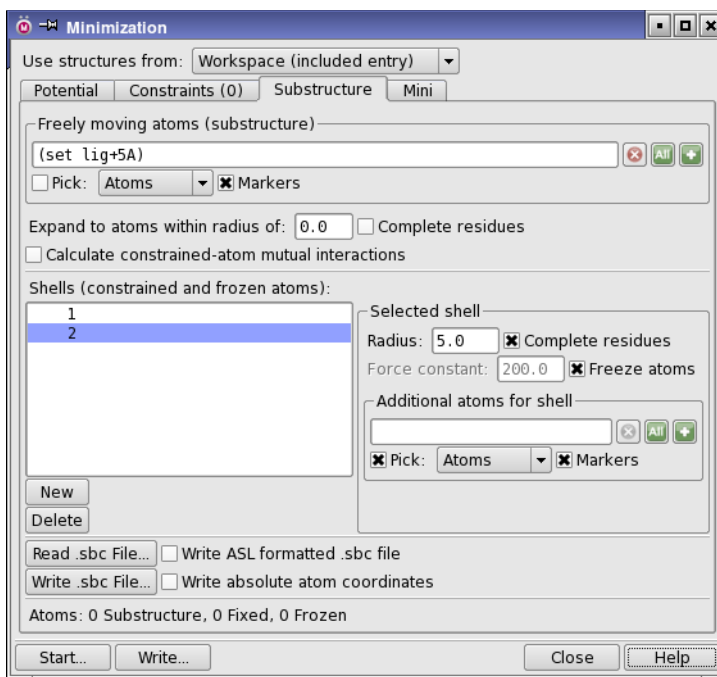

Figure 3.7. The Minimization panel showing the Substructure tab.
16. In the Substructure tab (see Figure 3.7), under Freely moving atoms (substructure), click the Atom Selections button and choose Select.